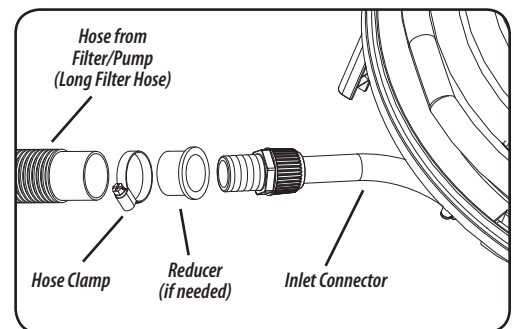

Figure 2
- e) Locate the inlet connector and the long filter hose. Attach the long filter hose between filter outlet (the port where the pool return hose was previously connected) and the inlet connector (located at corner of heater) using the included hose clamps (see figure 2).
NOTE: *Depending on the size of your hose, the 1¼"-1½" reducer may need to be used. Insert the reducer inside of the long filter hose and attach using hose clamp. Apply a small amount of silicon based lubricant to the outside of the side connector to allow an easy fit (see figure 2).*